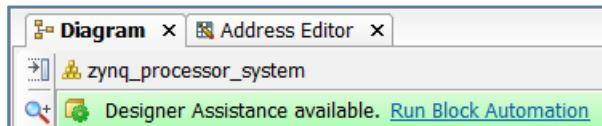

Figure 53: Run Block Automation on Zynq Processing System
7. In the header at the top of the diagram, click **Run Block Automation** as shown in Figure 53.